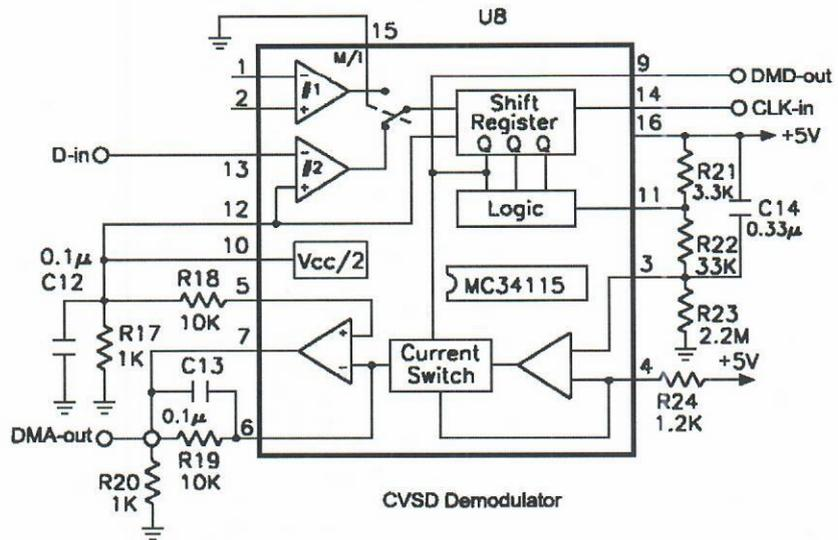

Figure 16-6 CVSD demodulator
1. Place jumpers in positions 2 and 6 to complete the CVSD demodulator shown in Figure 16-6.